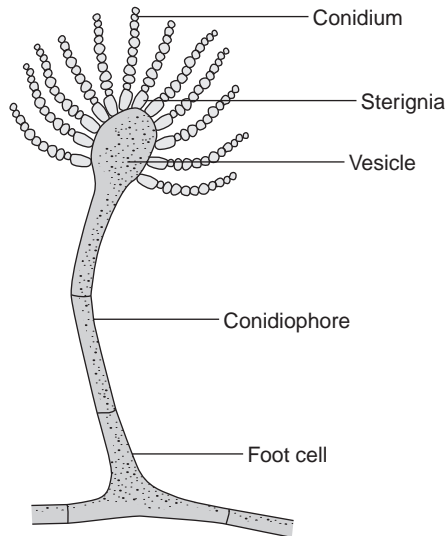

FIG. 7.2b. *Aspergillus*.
2. Ascomycota. (Plate 22) These molds produce asexual *conidiospores*, now known as *conidia*. Conidia are borne externally on aerial hyphae called conidiophores. In sexual reproduction, they form *ascospores* in a sac called an *ascus*. This division includes *Penicillium*,* *Aspergillus*, *Blastomyces*, *Histoplasma*, and the bread yeast, *Saccharomyces* (Figs. 7.2b, c, d).